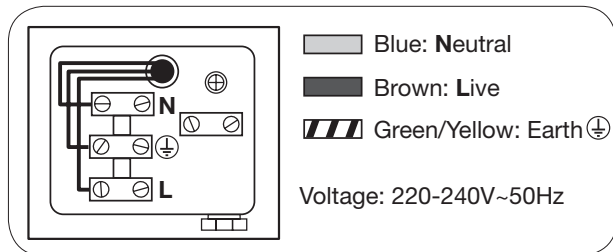

Fig.1
- Connect the yellow/green conductor of the connection supply cable with the connection block, marked with the earthing symbol (fig.1)
- Mount the other wires into the connector block. See marks N and L (fig.1)